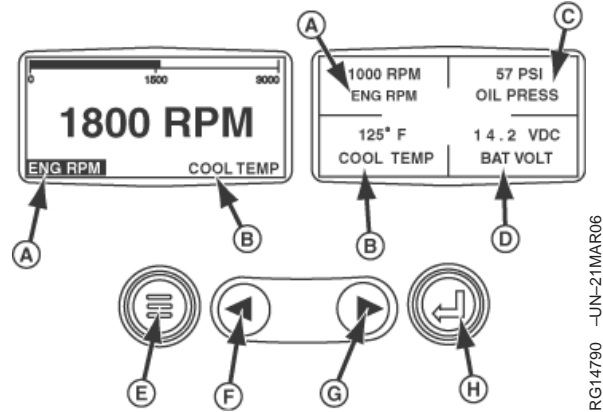

Figure 1. Normal Operation, Single and Four -Parameter Displays
1. Turn the ignition switch on. Powerview defaults to the single-parameter display. For examples of single and four -parameter displays, see figure 1.
2. Press menu key (E). Main menu is displayed, with 'GO TO 4-UP DISPLAY' highlighted. (This can also be accomplished from the four-parameter display, except "GO TO 1-UP DISPLAY" is highlighted.)
3. Once the "Stored Codes" menu item has been highlighted press the "Enter" key (fig. 1 (H)) to view the stored codes.